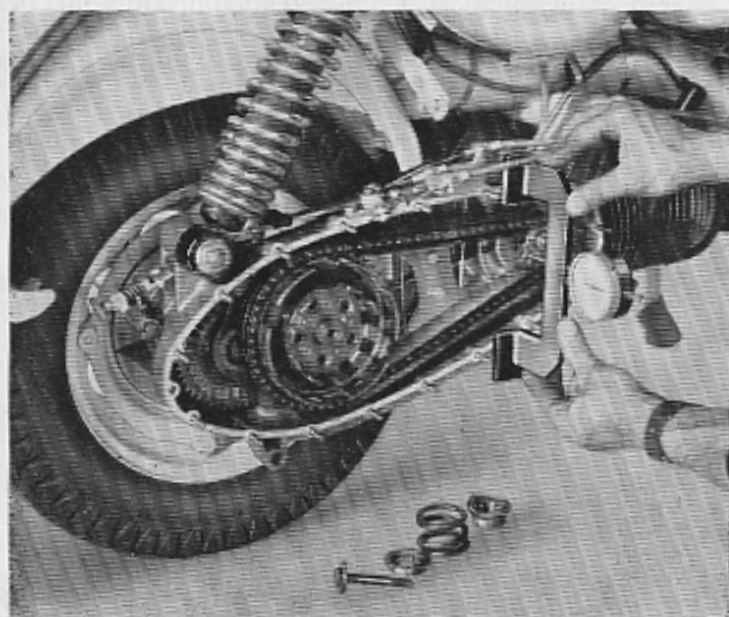

Fig. 27
- (a) Measure the distance to the sprocket face, bring dial gauge to ZERO. See Fig. 27.